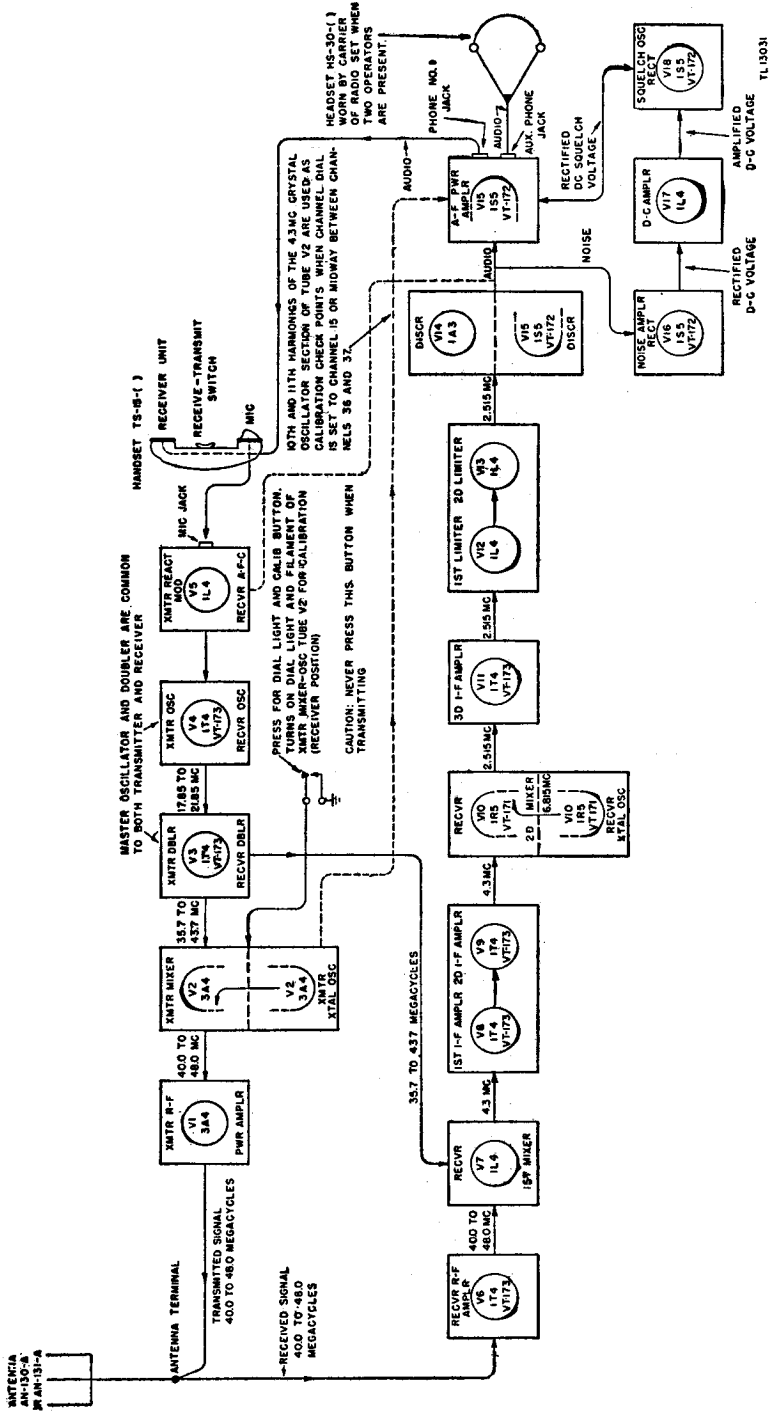

Figure 42. Radio Receiver and Transmitter BC-1000-A—block diagram.
a. Radio Receiver and Transmitter BC-1000-A consists of a number of interlocking circuits which provide rapid change-over from receive to transmit. The receiver and transmitter frequency is varied by a single tuning control. This makes it possible to change operating frequencies rapidly. The block diagram (fig. 42) shows the signal paths through the transmitter and receiver. The same antenna is used for both transmission and reception.